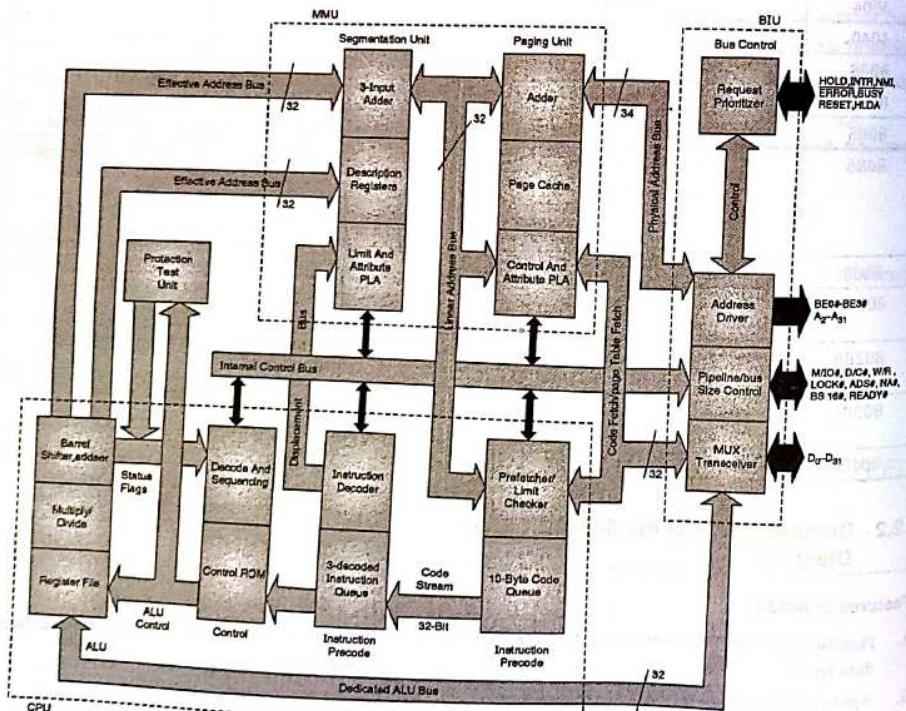

Fig. 12.2.1 : Block diagram of 80386DX
- The 80386 as shown in Fig. 12.2.1 consists of a Central Processing Unit (CPU), Memory Management Unit (MMU) and a Bus Interface Unit (BIU).
- The BIU handles all external accesses by providing the address and generating the respective control signals. The block diagram of 80386DX includes the following units as shown in Fig. 12.2.1.